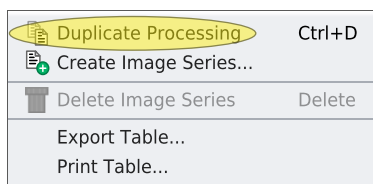

Figure 1.56: Context Menu Processing Platform
2. Open the context menu (see Figure 1.56 [▶ 74]) and invoke **Duplicate Processing** or type <Ctrl>+<D> on the keyboard.